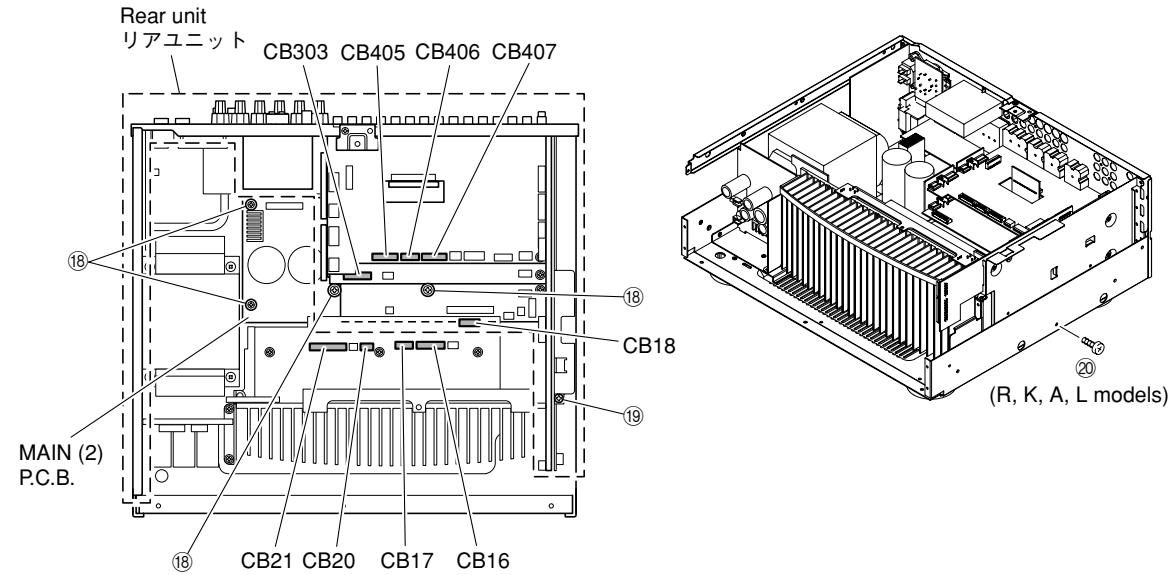

Fig. 8
- Remove 4 screws (18) and screw (19). (Fig. 8)
- Remove screw (20). (R, K, A, L models) (Fig. 8)
- Remove CB16-18, CB20-21, CB303, CB405-406 and CB407. (Fig. 8)
- Remove the rear unit and MAIN (2) P.C.B.. (Fig. 8)
- 18のネジ4本、19のネジ1本を外します。(Fig. 8)
- CB16-18、CB20-21、CB303、CB405-407を外します。(Fig. 8)